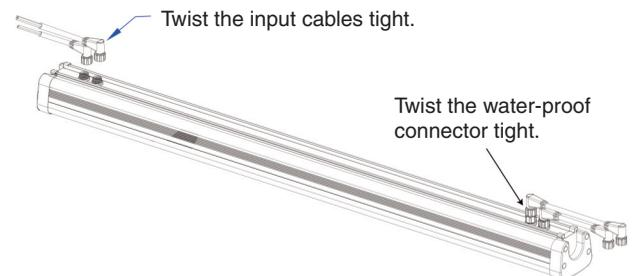

Fig. 4
4. Wiring: As shown in **Fig 4.**, install the power (D) and dimming (E) wire on the input end. Install power (G) and dimming (H) connecting cables on opposite end.